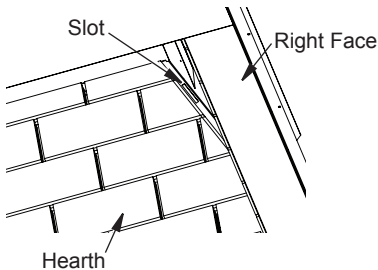

Figure 20 - Slots for Firebrick Walls
2. Install the left and right firebrick walls. There is a bracket with 2 tabs on the bottom of each firebrick wall. Angle the wall into the fireplace opening and into the slots on the side of the hearth (Figure 20), then tilt the top of the panel toward the firebox surround.